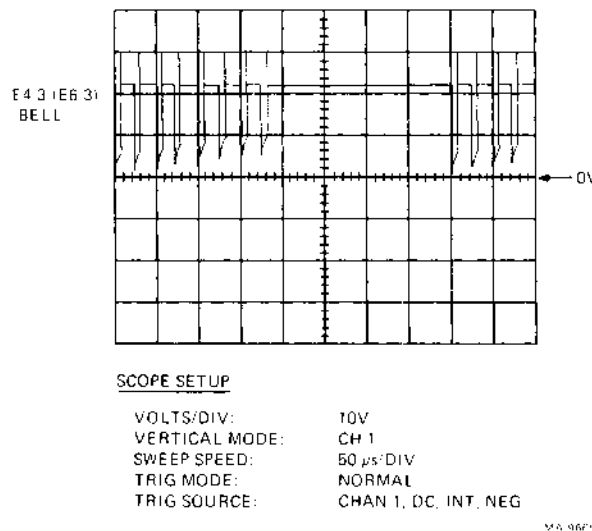

Figure 6-3 Bell Test Waveform
3. Connect channel 1 of scope to E4-3/E6-3 (-BELL). Set up scope according to Figure 6-3.
5. Check the bell circuit by pressing **CTRL/G**. The waveform displayed on the scope should be similar to Figure 6-3. The microprocessor and print controller generate a pattern of 8 chopping pulses every 400 μ s, for a tone of 2.5 KHz.